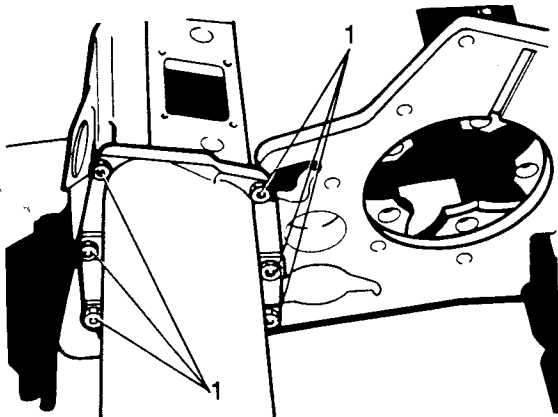

Fig H1.88
- (5) Refer to Fig H1.88. Remove the fixing elements (1) of the output shaft cover.